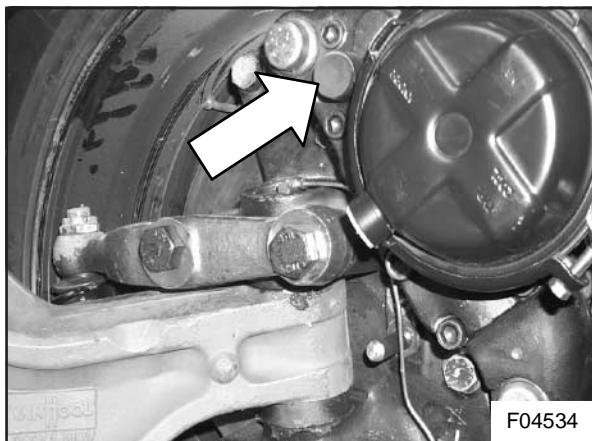

Figure 6: Adjuster stem cap
1. Remove the adjuster stem cap (see Figure 6).